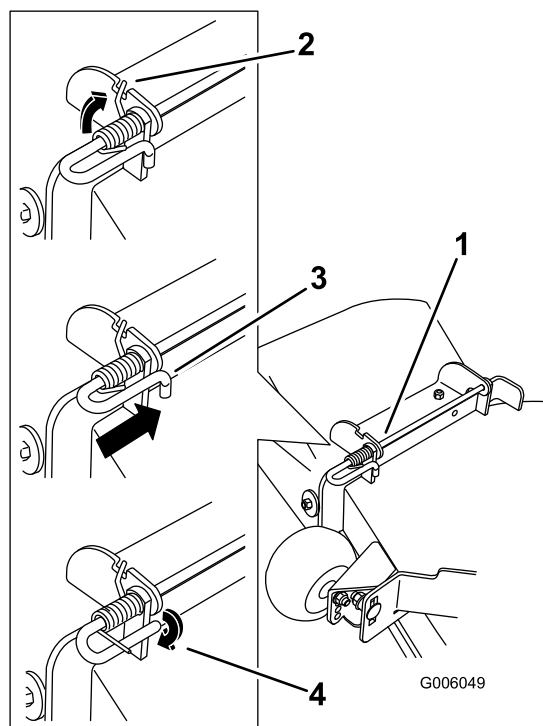

Figure 66
- Lift the long end of the spring and place it into the notch on the deflector assembly bracket (Figure 66).
- Secure the rod and spring assembly by twisting it so the short end of the rod can be placed behind the front bracket welded to the deck (Figure 66).